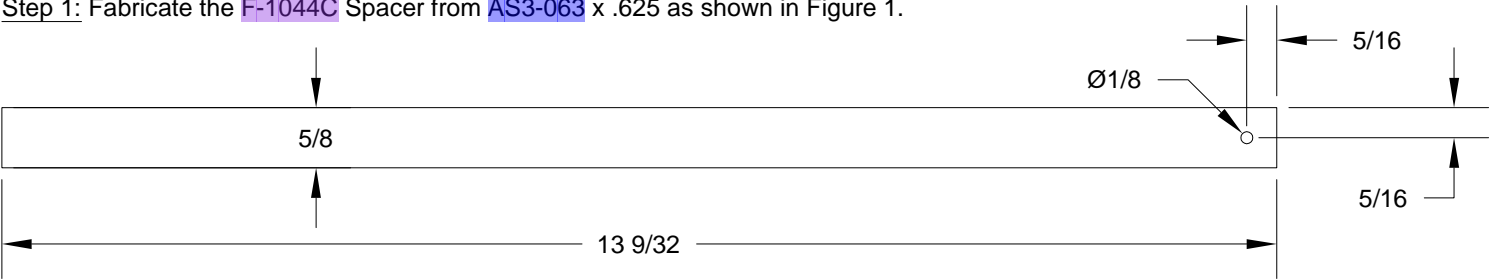

FIGURE 1: FABRICATE SPACER
Step 1: Fabricate the F-1044C Spacer from AS3-063 x .625 as shown in Figure 1.